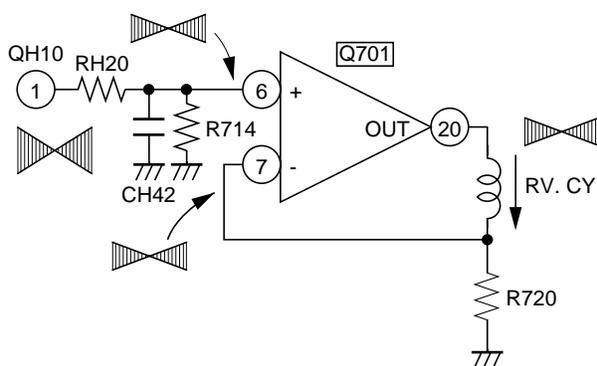

Fig. 6-4
Fig. 6-4 is a simplified illustration of the vertical drive circuit for red signal (RV). The hybrid IC can be regarded as an operational amplifier since its inside is constructed with a differential amplifier at the first stage and the push-pull power amplifier at the last stage.